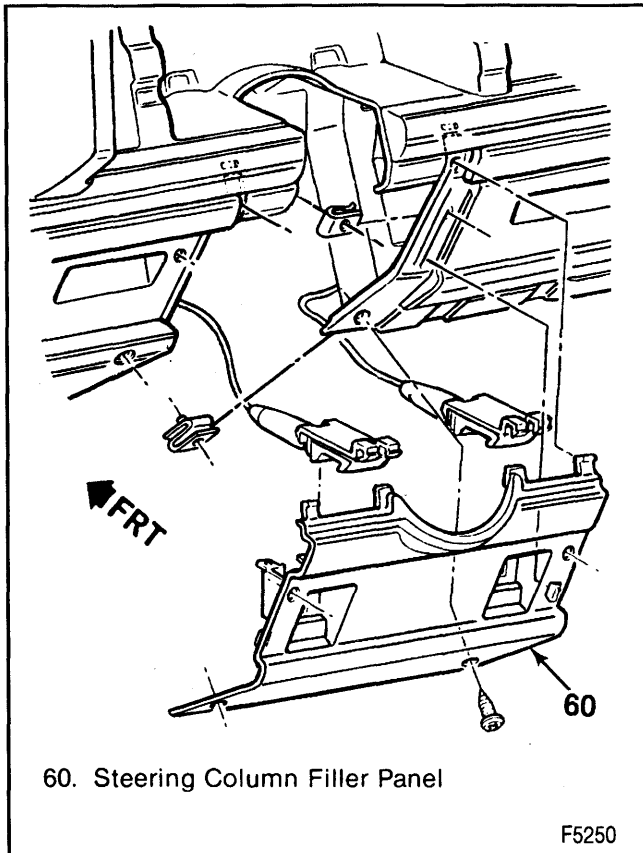

Figure 5—Steering Column Filler Panel
38. Snap clips and bolts from the left and right bracket mounted studs, supporting the carrier (figure 5).